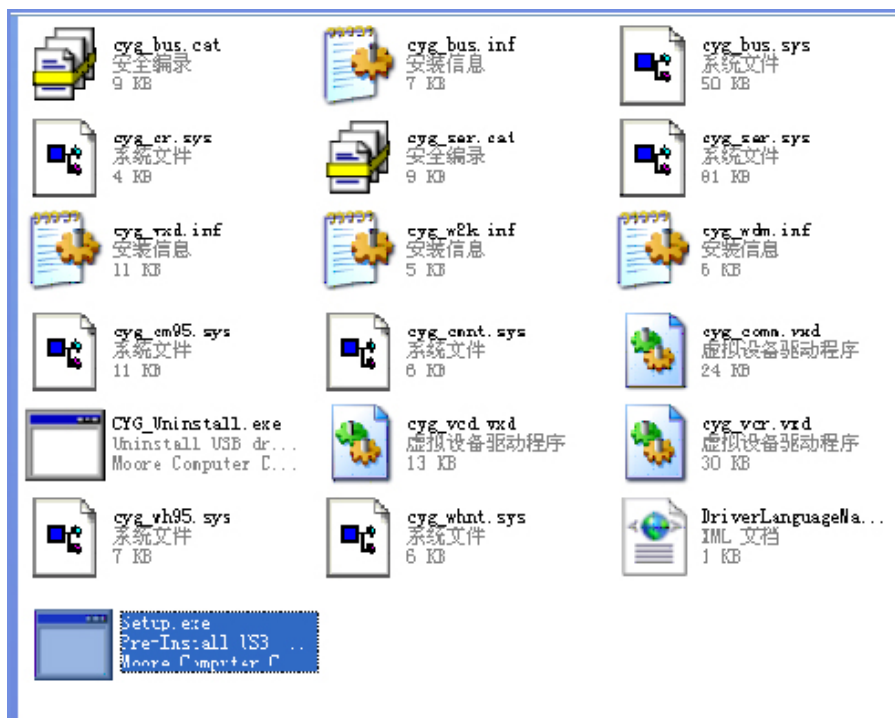

Figure 2-11
2.2.2 Then dblclick the “usbDriver” folder in Figure 2-10, the following figure will appear, as shown in Figure 2-11.